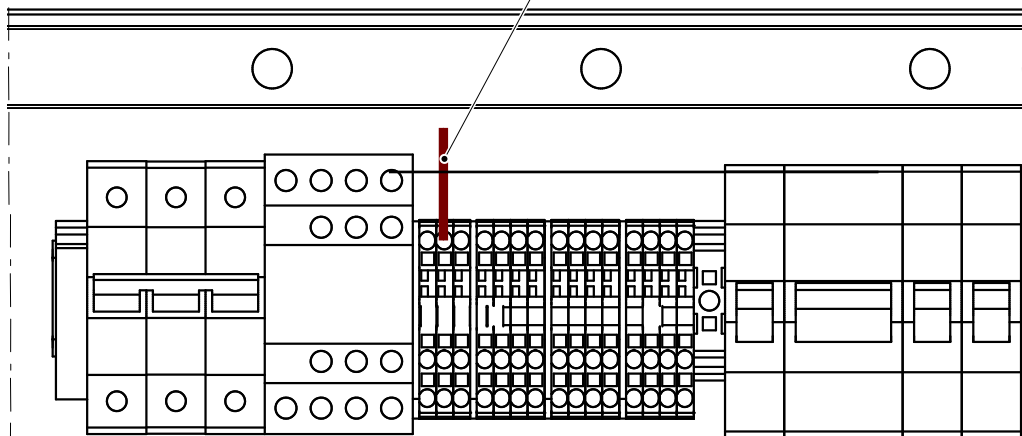

Fig. 4-38
Make sure the wire (A) is connected according to Fig. 4-38.